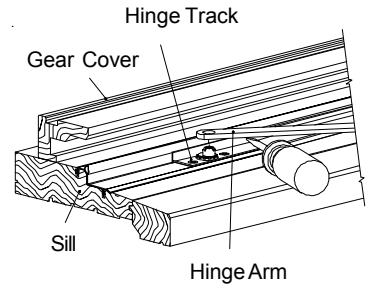

FIGURE 3
6. Release the bottom Hinge Arm from the Hinge Track by first disconnecting the stud clip on the Hinge Arm*. Using a flat head screwdriver, pry the bottom Hinge Arm away from the Hinge Track (Figure 3).